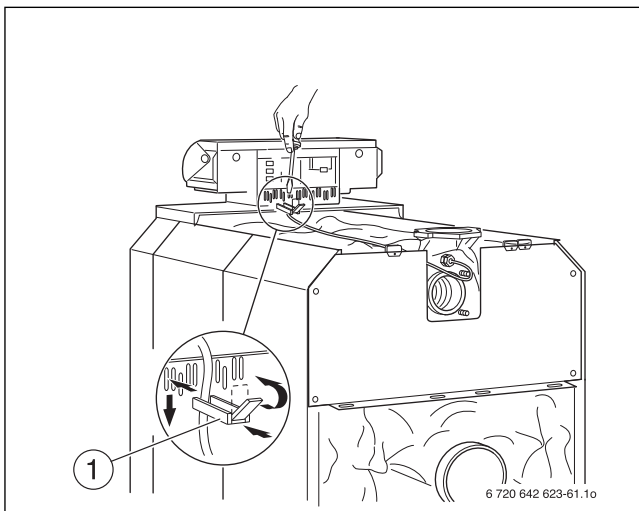

Fig. 64 Fastening the connecting cables
- ▶ Insert cable strain relief with cable inside into the frame and secure by closing the lever (→ Fig. 64, [1]).